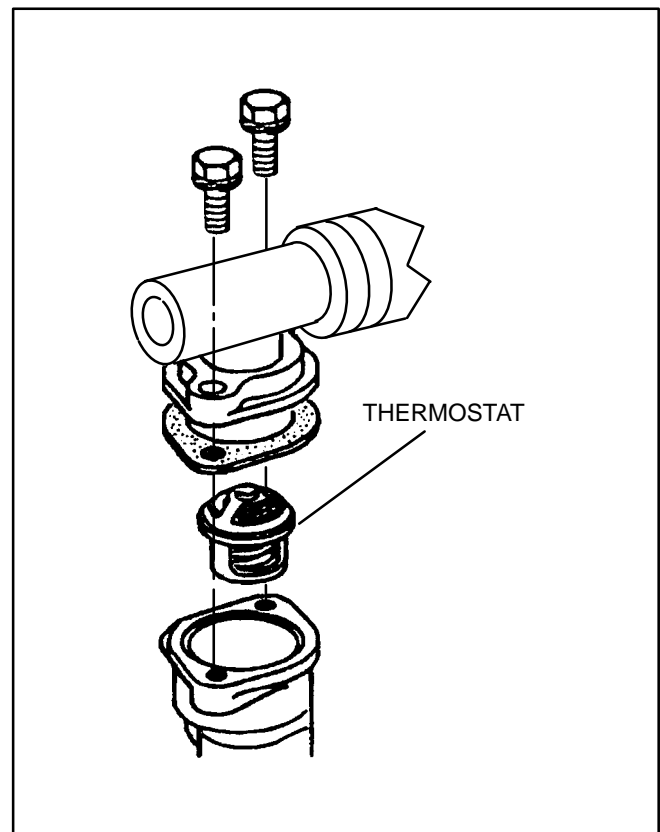

FIGURE 7. REPLACING THERMOSTAT
2. Remove the two thermostat housing bolts (Figure 7) and pull off the housing, thermostat and gasket. The hose does not need to come off.